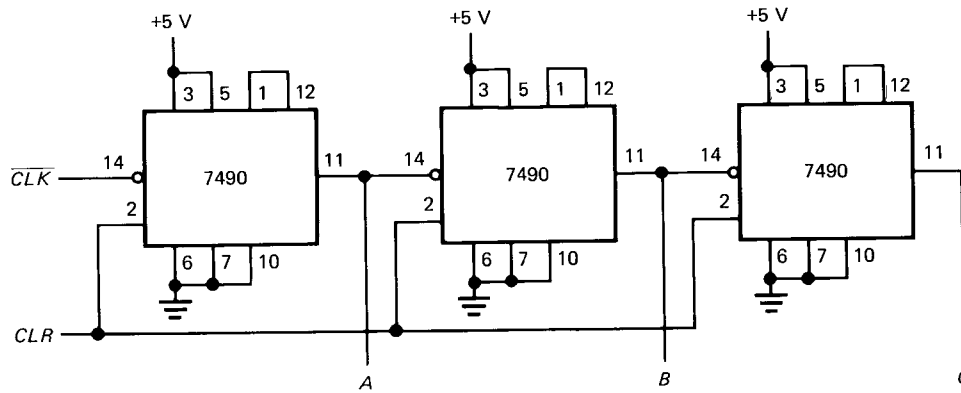

Fig. 8-31
- 8-10. When pins 1 and 12 of a 7490 are tied together as shown in Fig. 8-31, the divide-by-2 and divide-by-5 sections are cascaded to get a mod-10 counter. Pin 14 is the input and pin 11 is the output of each 7490. As a result, each 7490 acts like a divide-by-10 circuit and the overall circuit divides by 1,000.